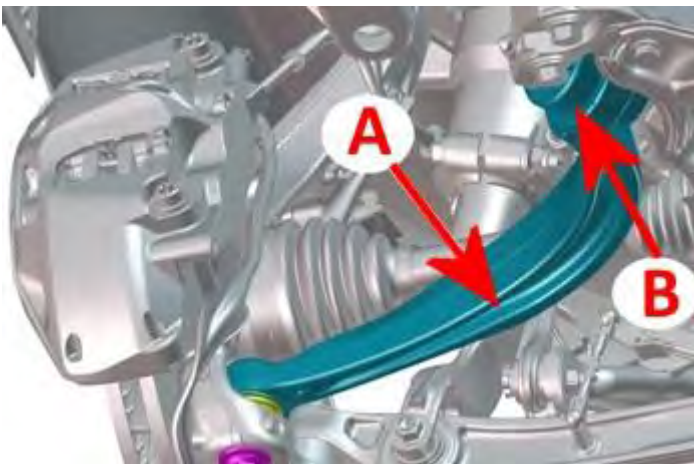

Figure 1
Figure 1 shows the left hand front rear most lower suspension lever (A) the hydraulic mount which must be changed is located at (B)